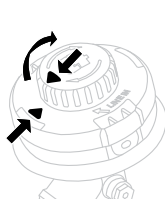

Fig. 8A
1. Align the arrow on the bump knob with the one on the spool cartridge. (Fig. 8A)